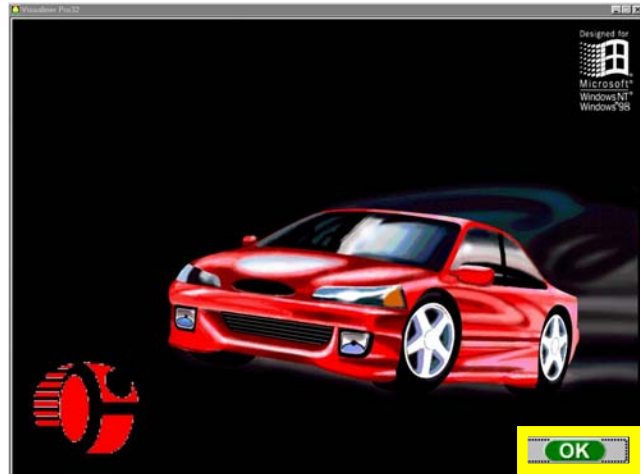

Figure 3-11
14. By default the logo screen is the first screen to appear after the alignment software loads. To access the alignment software click on the **<OK>** button in the lower right hand corner of the screen. (Figure 3-11)